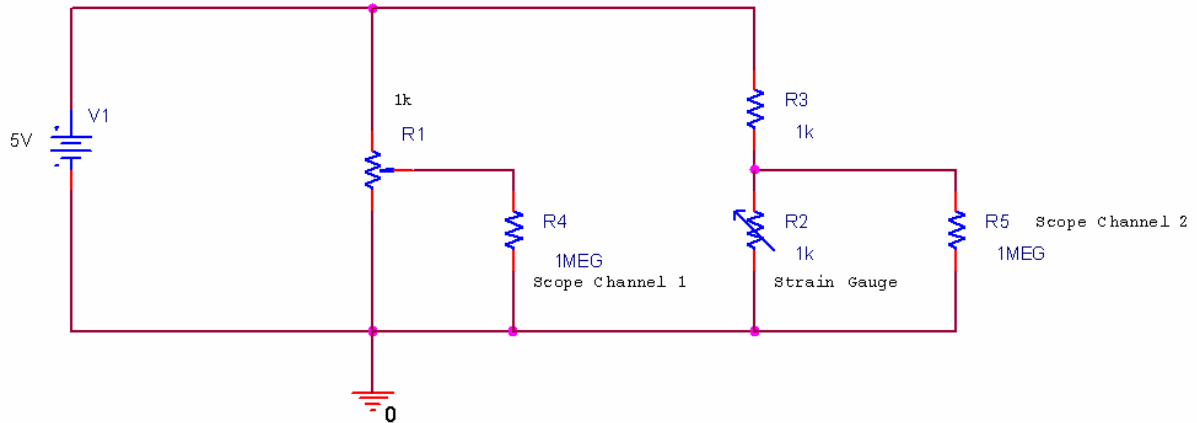

Figure B-9
- Build the circuit using the circuit diagram in figure B-9.
- Use a 1K pot (102), one 1K resistor, and the strain gauge on the beam.